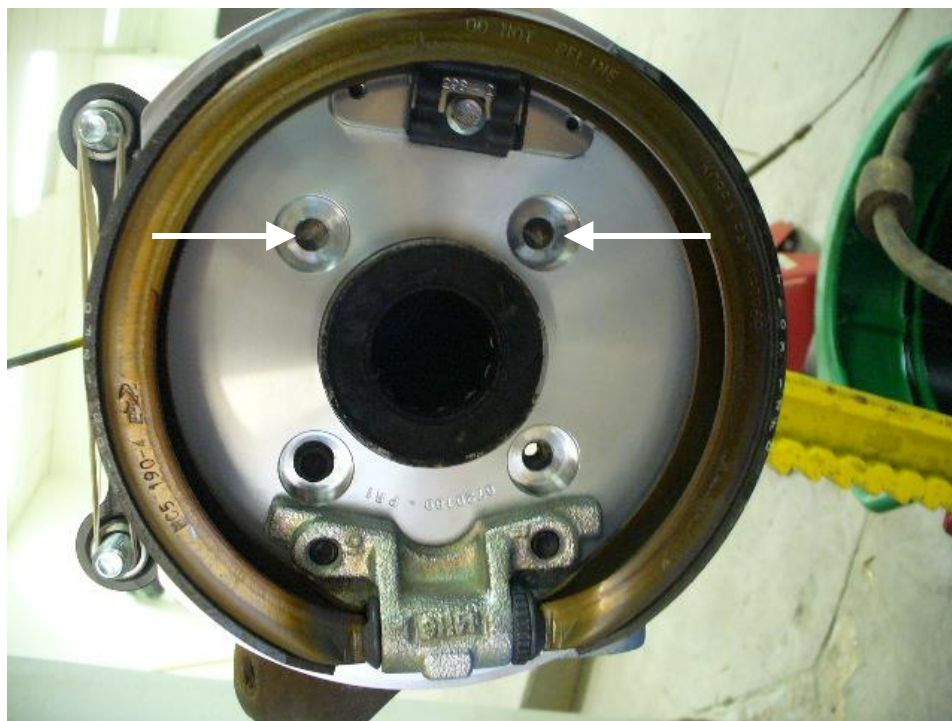

Figure 4: Drill upper two holes to .375"
7. Bolt the parking assembly backing plate to the housing using the supplied 3/8" x 1.5" bolts with Nylock nuts. See Figure 4 for reference. Drill holes in the axle flange for the upper mount holes in the park backing plate. Cover the axle opening to prevent chips from contaminating the axle gear lube.